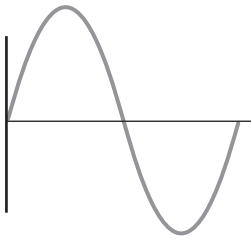
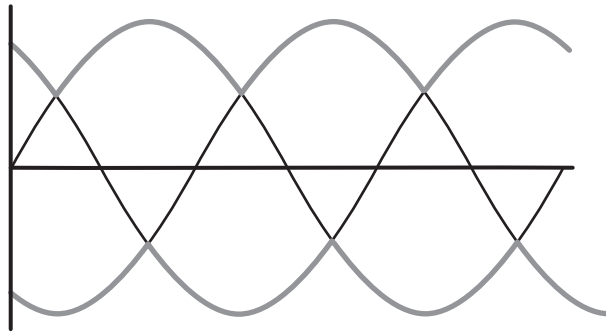

Figure 12-1 Single-phase power falls to zero three times each cycle.
Figure 12-2 Three-phase power never falls to zero.
2. The power delivered by a single-phase system pulsates, *Figure 12-1*. The power falls to zero three times during each cycle. The power delivered by a three-phase circuit pulsates also, but it never falls to zero, *Figure 12-2*. In a three-phase system, the power delivered to the load is the same at any instant. This produces superior operating characteristics for three-phase motors.